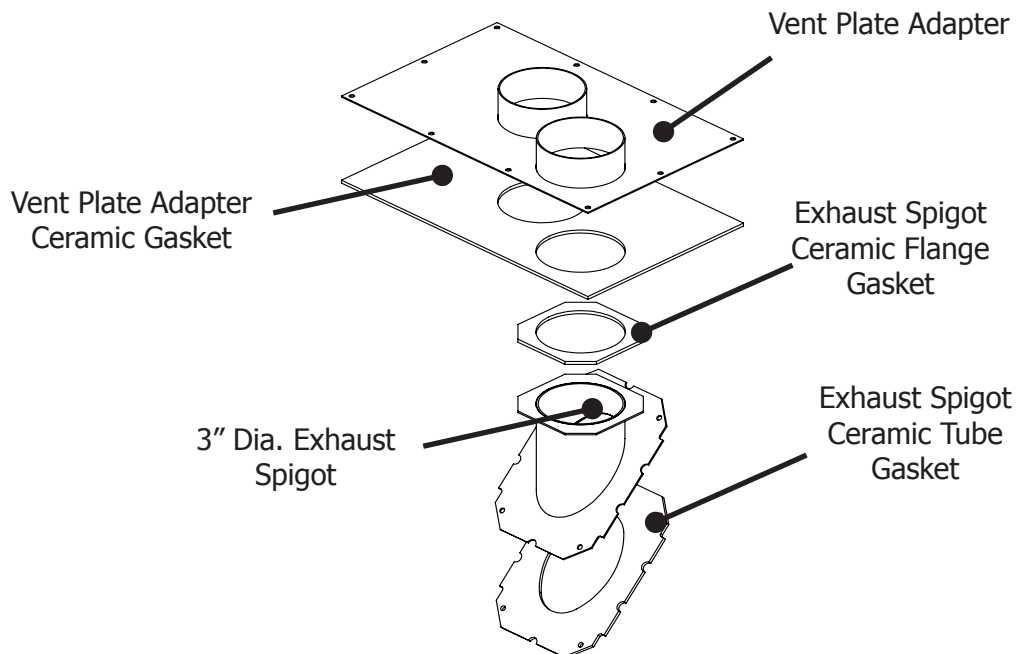

Figure 43: Co-Linear Venting Kit Contents
- STEP 8.** Continue to add pipe sections until the height of the vent cap meets the minimum code requirements. Refer to Figure 43 and Table 8. Note that for steep roof pitches, the vent height must be increased. In high wind conditions, nearby trees, adjoining roof lines, steep pitched roofs, and other similar factors can result in poor draft, or down drafting. In these cases, increasing the vent height may solve the problem.
Table 8: Minimum 'H' for Figure 43.